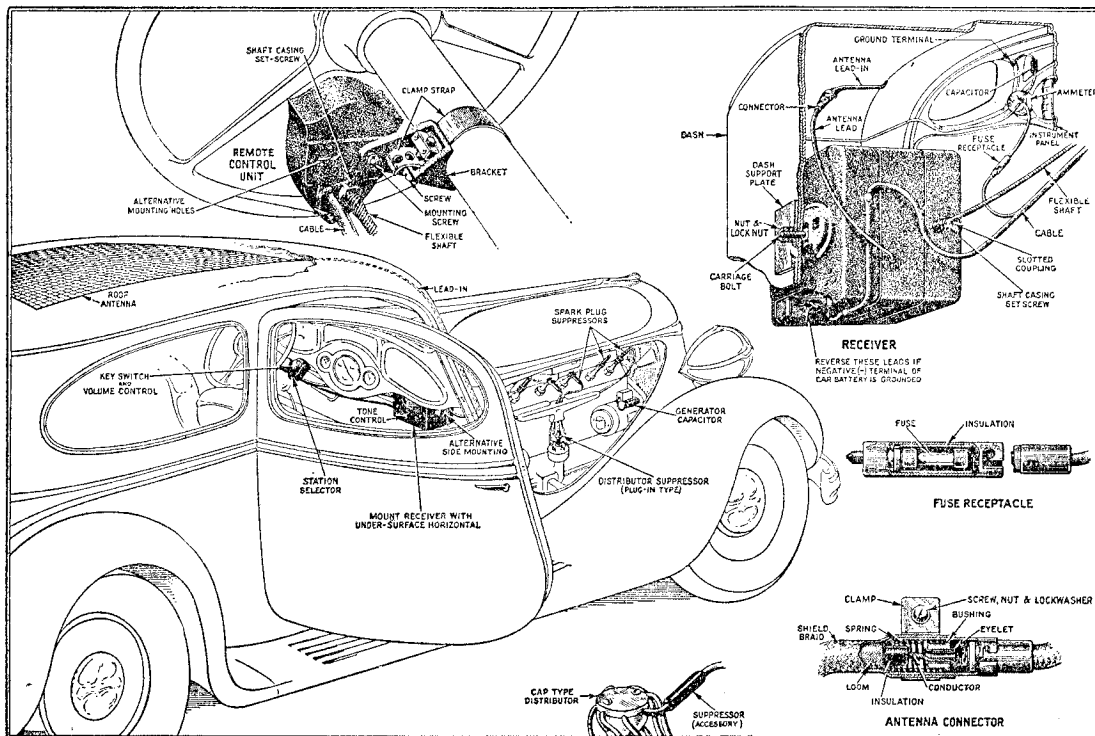

Figure 1
3. **CHECK POLARITY OF AUTOMOBILE STORAGE BATTERY SUPPLY.** If the negative (—) side is grounded to car frame, make changes to chassis connections shown in Figure 1. Do not disturb these connections if positive (+) side is grounded. (See details under "Mounting of Units"—page 5.) Replace case cover.
4. Determine most satisfactory mounting position (see details under "Location of Units"—page 4); spot mounting-bolt location and drill 1/8" diameter hole. Insert bolt through dash and assemble support plate and nuts on engine side. Hang receiver over bolt head and tighten nuts. (See Figure 1 and details under "Mounting of Units"—page 5.)
5. Attach remote control unit to steering column by means of mounting bracket and strap. (See Figure 1 and details under "Mounting of Units"—page 5.)
6. Assemble flexible shaft to receiver and remote control unit. (See Figure 1 and details under "Mounting of Units"—page 6.)
8. Connect terminal at end of black lead from cable to binding post of automobile ammeter (see Figure 1 and details under "Connections"—page 7). The ignition by-pass capacitor (equipped with two leads) should be installed at this time. (See Figure 1 and paragraph 4 under "Suppression of Ignition Interference"—page 7.)
9. Install spark-plug and distributor suppressors; also generator by-pass capacitor (see Figure 1 and paragraphs 1, 2 and 3 under "Suppression of Ignition Interference"—page 7).
Details of mounting the various units are shown in Figure 1. The following procedures are recommended:
NOTE.—At this point, it will be advisable to determine the electrical polarity of the storage battery supply. This may be done most conveniently by making an examination of the battery connections and ascertaining which terminal is grounded (that is, connected to the frame of the car). The positive terminal is usually marked (+) and tends to form corrosion far more rapidly than the negative (—). If the positive terminal is grounded, no change in the electrical connections of the receiver unit will be required. However, if the opposite is true, the two leads (equipped with splice terminals) located beneath the radio chassis as shown in Figure 1 must be reversed.
Remote Control Unit.—In attaching the remote control unit to the steering column of the car, it will be advisable first to examine the detailed view (in Figure 1) showing the assembly of its mounting bracket. Four small holes are contained in the associated flexible strap at distances proper for use with steering columns of the most common diameters (1½, 1¾, 1⅞, 1⅞ inches) but the strap length will be found sufficient to permit the insertion of an additional hole if necessary to accommodate a 2-inch column. The proper hole may be determined by wrapping the clamp strap tightly around the column, inserting the machine screw furnished through that hole found to be nearest in alignment with the tapped hole in the clamp bracket. Three tapped holes are provided in the back of the remote control unit, permitting support of that unit either at the right- or left-hand side or above the steering column.
Receiver and Remote Control Units.—The arrangement of units shown in Figure 1 is recommended and will be found applicable to the majority of automobiles. Consideration should be given to the possibility of interference of the receiver with other equipment beneath the instrument panel or of the mounting bolt with apparatus on the engine side of the dash. By placing the receiver unit toward the right-hand side of the dash, the flexible shaft will be of correct length as furnished in practically all cases. This position, however, may be considered impractical because of its universal preference for hearing devices, necessitating installation of the receiver unit either near the center or at the extreme left-hand side of the dash and the use of a shorter flexible shaft. In such cases, the shaft may be either short-
1. Disconnect all wires from the spark plug and re-attach the wires to the free ends of the suppressors. These suppressors may be mounted either in line with or at right angles to the plugs (as shown in Figure 1) in order to avoid interference with metallic parts grounded to the engine or frame.
Refer to the detailed view of the antenna connector shown in Figure 1 and proceed to attach the lead-in wire (if shielded) as follows: First, cut the end of the lead-in so that the internal insulated wire and loom (if present) are flush with the end of the shield covering and push back the shield approximately 1 1/2 inches. Cut the loom to the end of the
Refer to Figure 1 and make connections as follows: